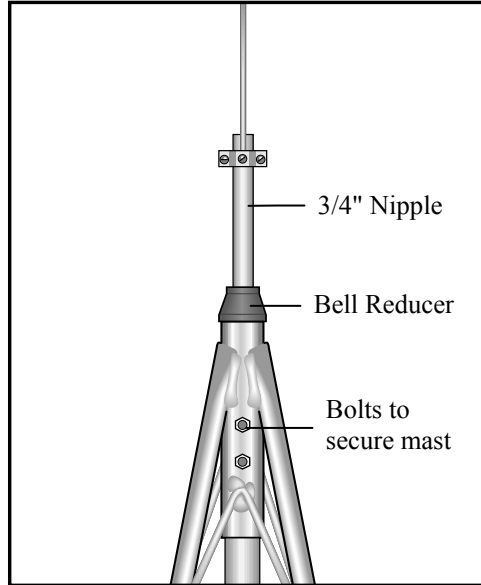

FIGURE 2.2-4. UT10 Mast
1. Install the mast as shown in Figure 2.2-4. Attach the 3/4" x 10" nipple to the mast using the bell reducer. Loosen the two bolts at the top of the tower and insert the mast. For a 3 m mounting height, the bell reducer should rest against the top of the tower. Tighten the two bolts to secure the mast.